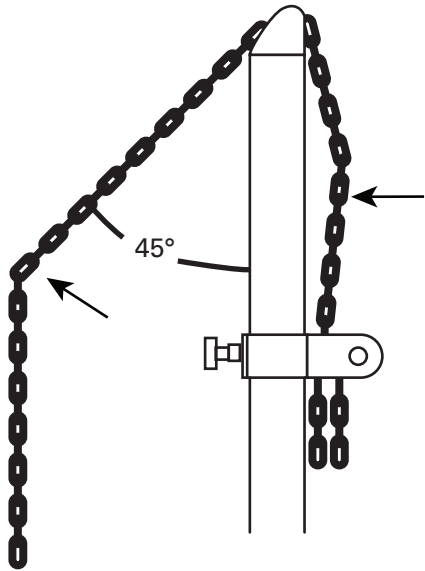

Figure 35
6. To adjust chain length, grip chain on each side of tower. Lift tail of chain outward until it is approximately 45 degrees from tower (see Figure 35). Disengage chain from tower head and pull chain to either increase or decrease chain length.